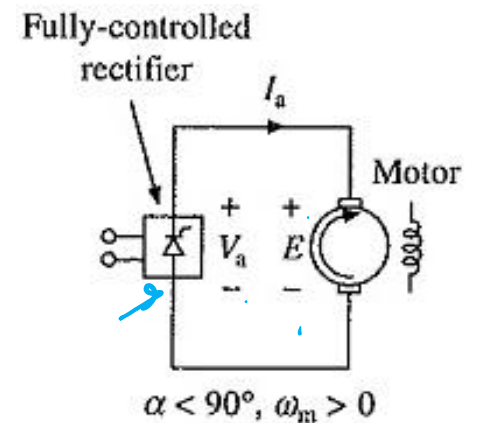

Fig. 6. Motoring mode.
- When working in quadrant I, ω_m is positive and $\alpha \leq 90^\circ$; and polarities of V_a and E are shown in Fig. 6.